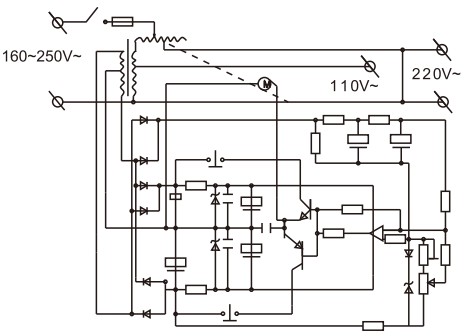

Figure 2
- ☐ The electrical schematic diagram of 0.5kVA~1.5kVA high-precision full-automatic AC voltage stabilizer is shown in Figure2;